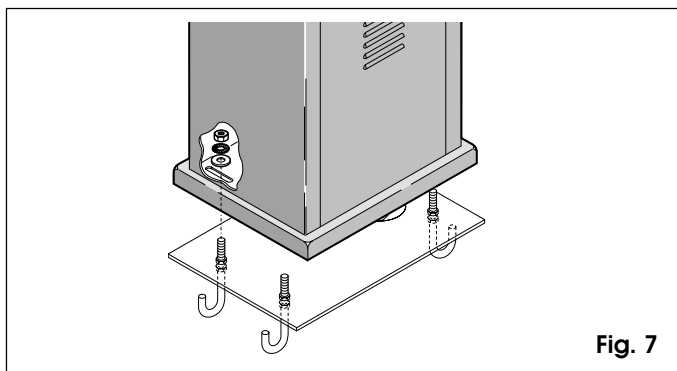

Fig. 7
- 1) Remove the casing (2, fig. 2) and position the gear motor on the foundation plate. Fit, but do not tighten, the washer, the split washer and the nut as shown in fig. 7.